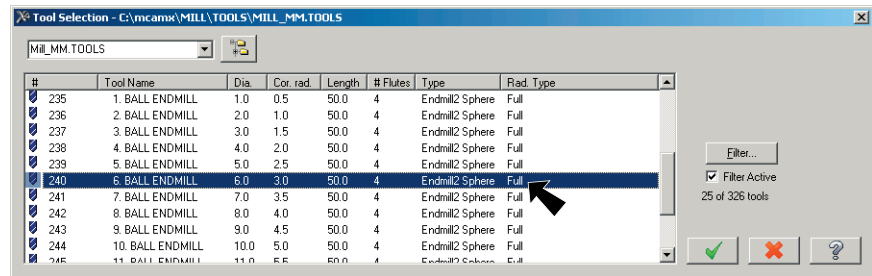

Fig. 29
Step 5. Click **240 Endmill2 Sphere 6mm**, **Fig. 29** and click OK.